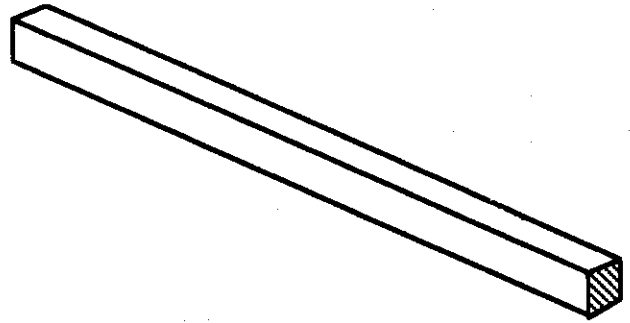

Figure 4: HSR #3 AWG Square Wire (Actual Size)
3.03 The HSR is an iron core inductor wound with heavy #3 AWG square wire and is installed in the neutral circuit of the capacitor bank (See Figure 4). The possibility of HSR failure in an open neutral circuit condition is highly unlikely because the fusing time of an HSR-42 far exceeds the maximum clearing time of a 65K fuse link (typically the largest fuse link used on capacitor banks).